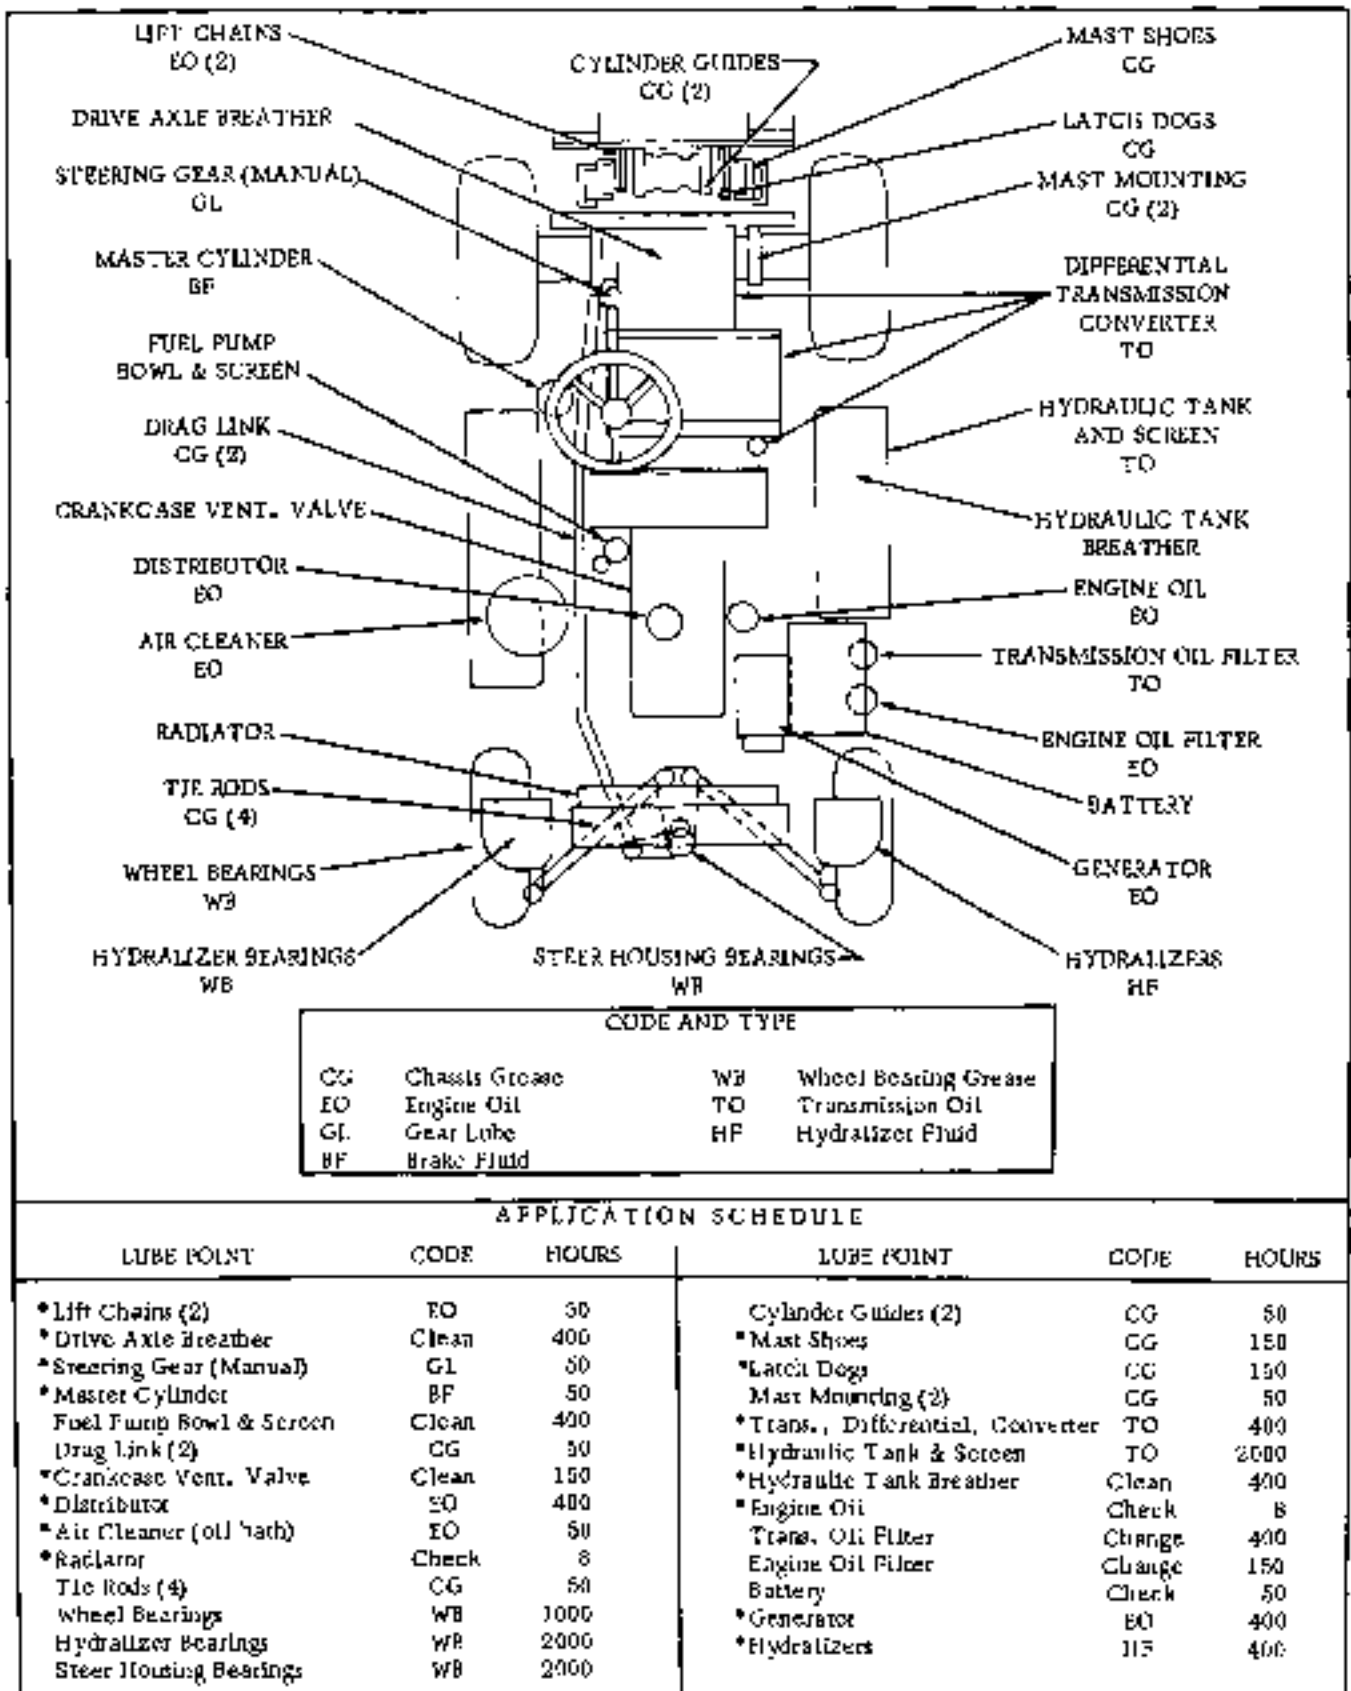

Fig. 1-9. Lubrication Chart (Part 1 of 2)
- a. The lubrication chart (figure 1-9) illustrates lubrication points on the lift truck and prescribes approved lubricants, recommended intervals, and application procedures.